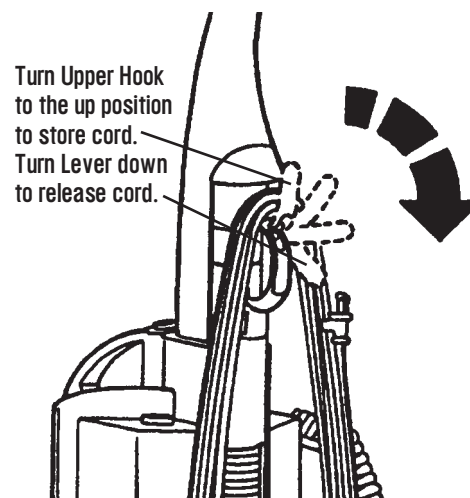

Figure 5a
3. Wind the Cord around the Upper and Lower Cord Hooks on the side of the Vacuum Cleaner to store. (See Figure 5a.)